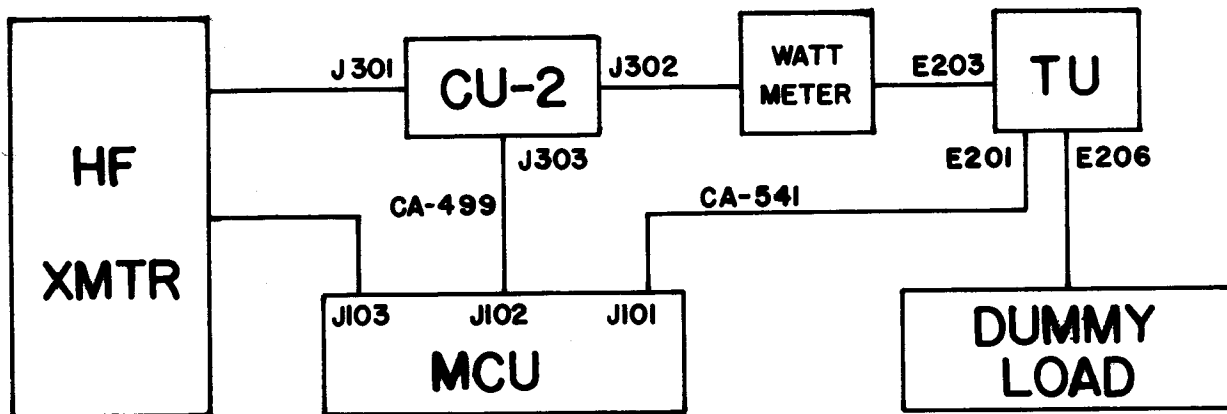

FIGURE 1
2. Connect test set-up as shown in Figure 1.